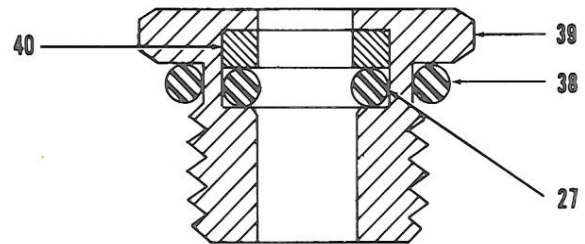

FIGURE 9
B. Reserve Cap Assembly (Figure 9):
Inspect the undercut in the cap (Item 39) for any chips. Lubricate, then assemble O-ring (Item 27) inside the undercut. The backup O-ring (Item 40) must not be lubricated and is assembled next as in Figure 9. Lubricate and assemble the outside O-ring (Item 38) as per figure